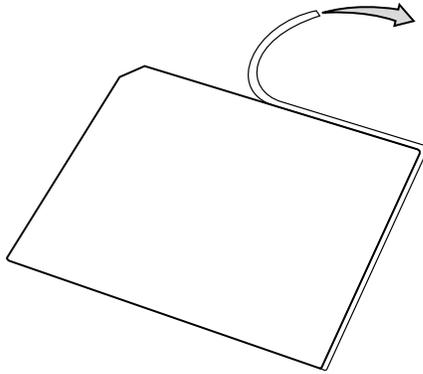

Figure 4. Removing Screen Protector Edge Strip
2. For installation on the harsh environment case (HEC), remove the edge from the screen protector, as shown in Figure 4.